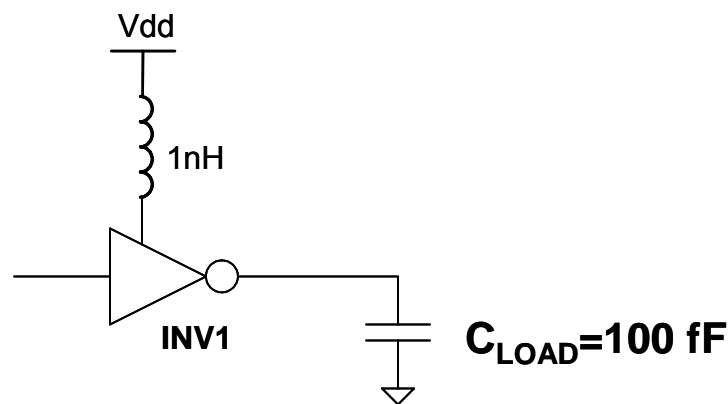

Figure 2.2
- c) This complex gate must be sized to match the worst-case output resistance of the inverter below (INV1 in Figure 2.2). INV1 has a design constraint that the power supply noise must be less than 1% of V_{dd} while t_{plh} is minimized. Let $\beta = 2$ in INV1 and only consider power supply noise on V_{dd} . The inductance associated with the power network is 1 nH. C_{Load} in Figure 2.2 represents all relevant capacitances – do not calculate any capacitances in this problem.